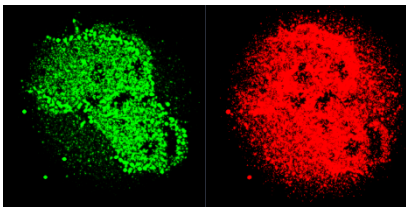

Fig. 594 Split view tab - group modes selected
- **group modes**: channels are grouped according to their color channel (HR1, SWF1 together; HR2, SWF2 together; etc.) (Fig. 594)